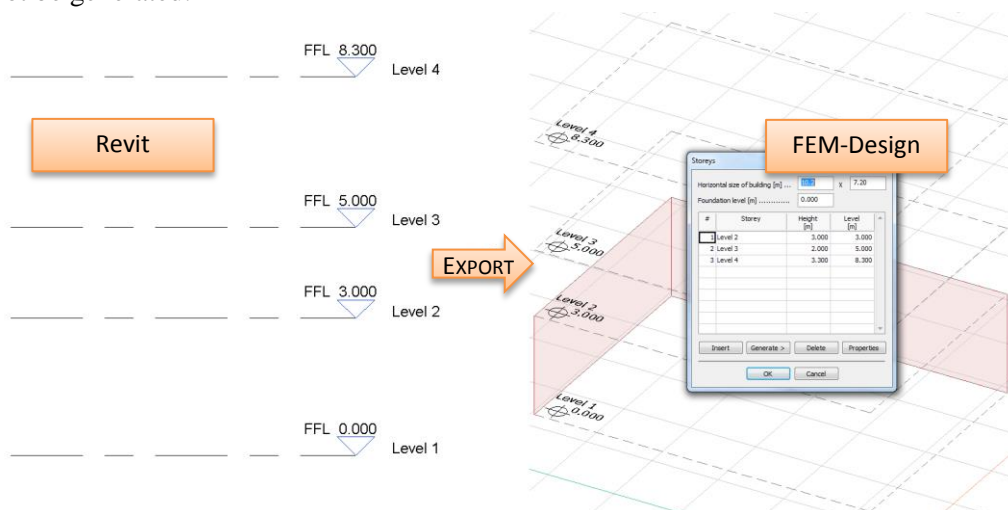

Figure 3-15
- Size of the *Storey* in FEM-Design is calculated based on the placement of most outer elements in the Revit model and included as a *Horizontal size of building* in the *Storey* dialog, as shown in Figure 3-15.